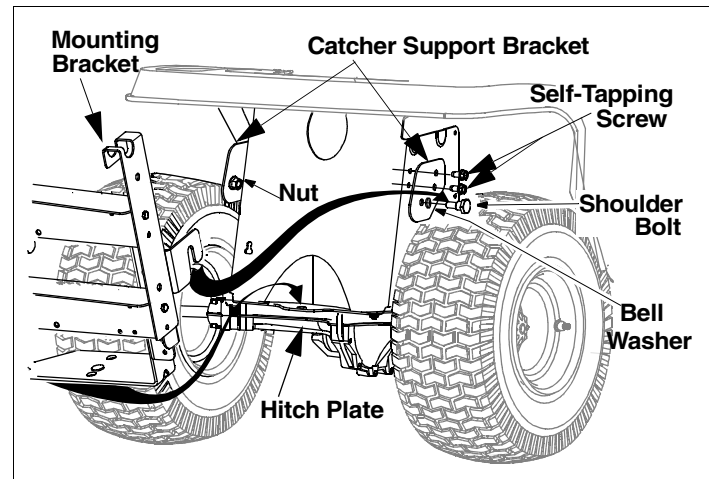

Figure 10
- Place one Catcher Support Bracket (Ref. No. 15) on each side of the tractor frame aligning the two smaller holes on the bracket with the corresponding holes on the tractor frame as shown in Figure 10.
- Secure the Catcher Support Brackets to the tractor frame with two Self-Tapping Screws (Ref. No.14). See Figure 10.
- From the outside of the Catcher Support Bracket insert the Shoulder Screw/Bell Washer subassembly through the hole on the Catcher Support Bracket. Secure with a Flange Lock Nut (Ref. No. 9). See Figure 10. Repeat on other side.